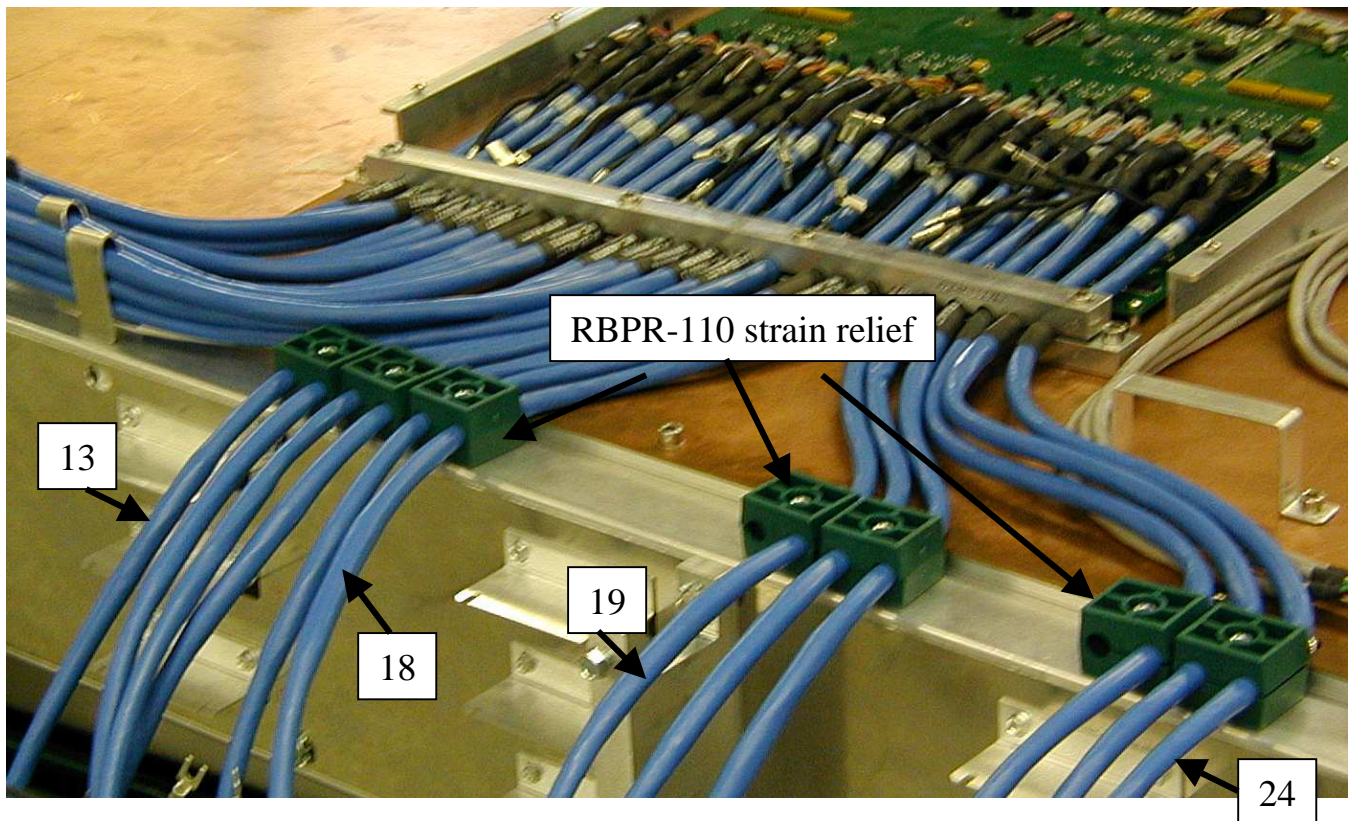

Fig.4. Cables fixed on the chamber frame.
- Arrange all cables in the natural order. See Fig.4 for reference
See Fig. 4.